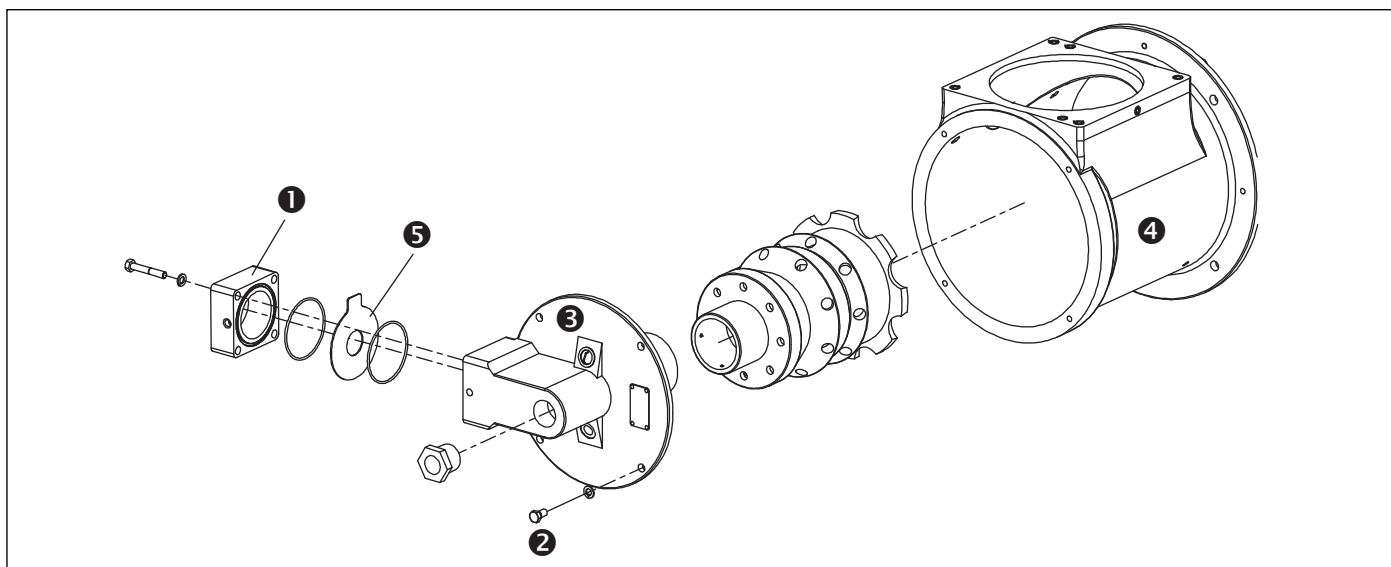

Figure 5.1.
6. Remove and clean the orifice plate ❸, see Figure 5.1.
The nozzle and combustion tube/block can be inspected without removing the burner from the chamber wall or entering the chamber. See Figure 5.1. Perform the following: